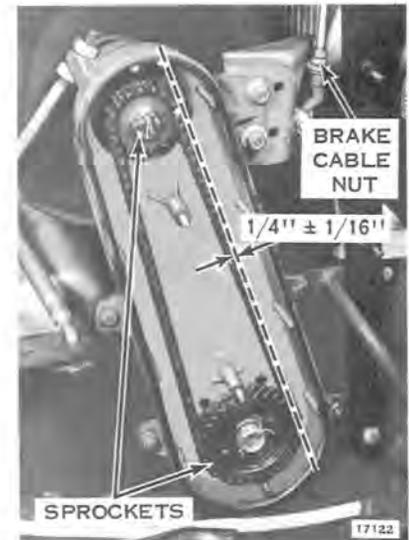

Figure 10-10
3. Remove cotter pin and nut from upper drive sprocket. (See Figure 10-10.)
Total slack must be $1/4" \pm 1/16"$ as shown in Figure 10-10. To measure this distance, first remove the chain case cover. (Note: Oil will drain when cover is removed unless snowmobile is tilted on its side). Place a straightedge over the chain at the sprockets, press in on the center of the chain and measure the slack at this point. If the chain requires adjustment, use the following steps: